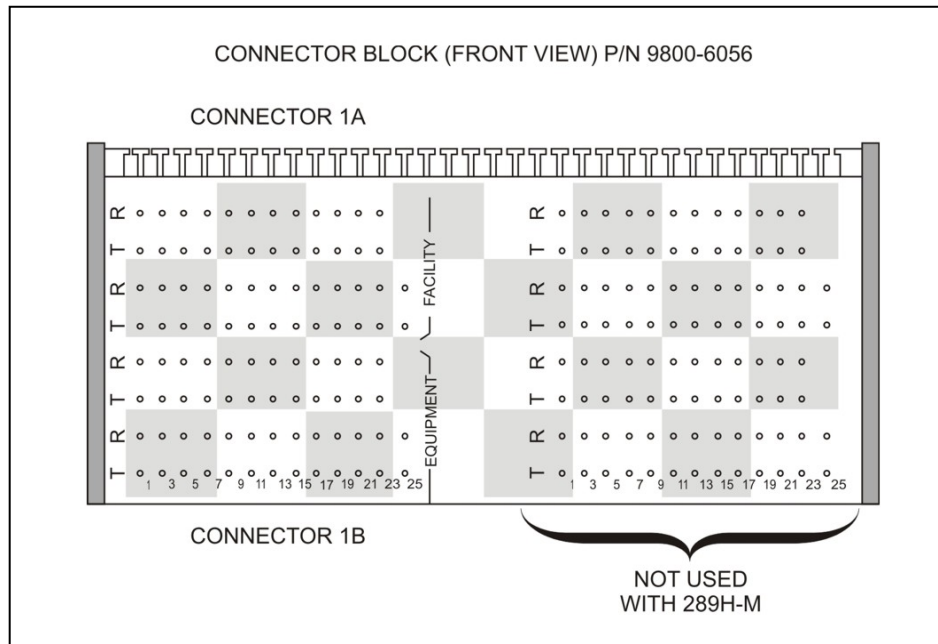

FIGURE 4-1: STANDARD SUBSCRIBER CONNECTOR BLOCK
The 289H subscriber connector block (P/N 9800-6056) provides termination pins for 50 devices on subscriber pairs. The face of the block (the side with the wire wrap pins) is divided into two main groups of pins (FIGURE 4-1), each to accommodate a total of 25 monitoring devices. Either the left or the right group can be used to terminate subscriber devices wired to the 289H-M; however, the left group is recommended for a 289H-M installation, and the documentation reflects this preference. Each main section of pins is further divided in half, with the top four horizontal rows of pins used to connect jumpers from the field (Facility) and the bottom four used to connect jumpers from the central office (Equipment).
9. Using the PressureMAP Device Log and the wire wrap tool, individually wire the jumper pairs to the left side of the new 289H-M subscriber block. Make sure that you have properly identified each device pair at the frame and have confirmed its new pin location before you wire the conductors to the block. (Refer to FIGURE 4-1 for a close up view of the pin arrangement on the subscriber block. It may be helpful to refer to this drawing when wiring the block.)
The instructions on the preceding pages describe the procedures for wiring subscriber circuits to a subscriber block. If you have an office with a majority of subscriber device circuits and only a few random dedicated device pairs, you can wire all of the devices onto a subscriber block. In this application, the dedicated pairs need to be terminated on the assigned pins in the UPPER (Facility) section of the subscriber block (FIGURE 4-1). The access number(s) assigned during the conversion process will indicate which pin numbers should be used for wiring dedicated pairs on the subscriber block.